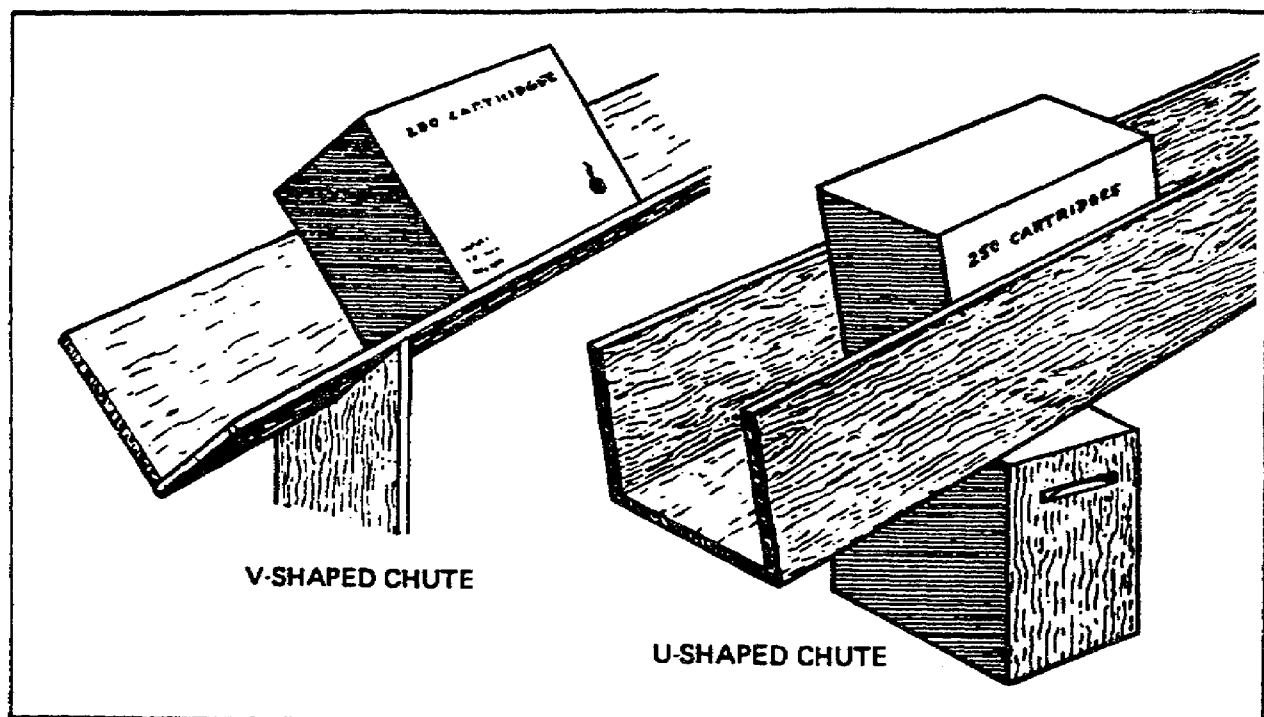
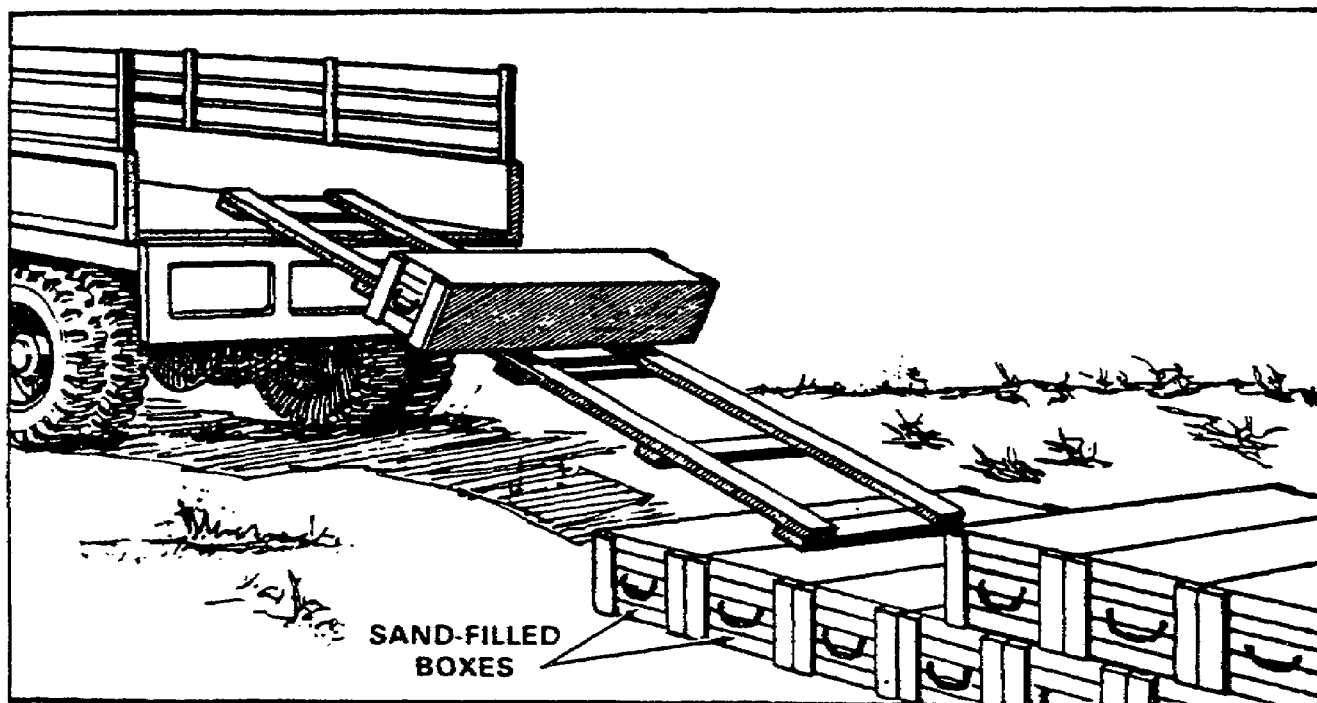

Figure 1-3. Chutes.
Figure 1-4. Ladder Slide.
**Field Expedients.** Mechanical MHE may not always be available, but the ammunition must still move. There may be times when ammunition personnel must cut banding on pallets and handle the ammunition by hand. Ammunition and transportation personnel must then improvise methods to speed up movement and make the task easier. Some methods that have been used include chutes (figure 1-3) and the ladder slide (figure 1-4).